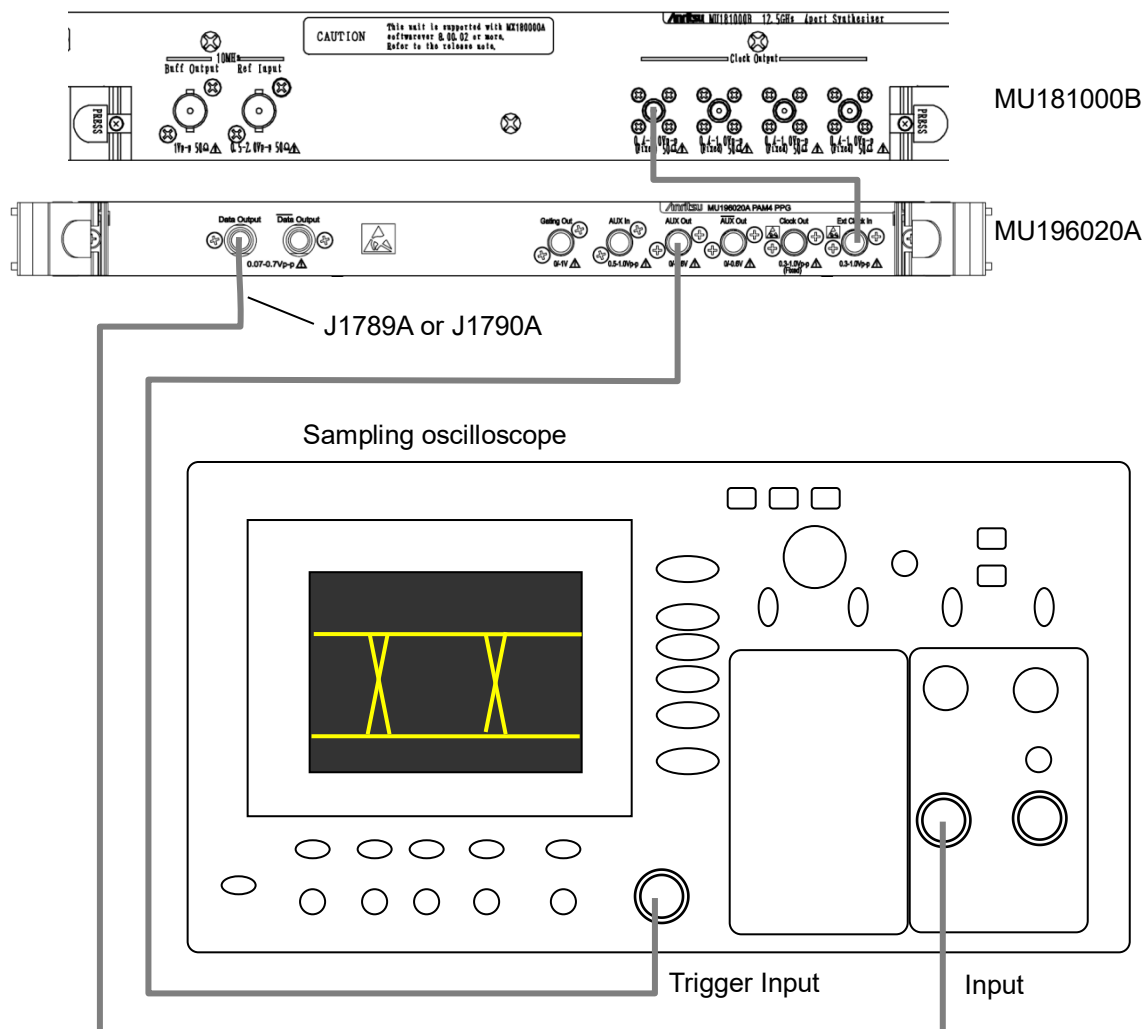

Figure 5.3.2-1 Connection Diagram for Waveform Test
8. Connect the measuring instrument cables as shown in Figure 5.3.2-1. Be sure to connect the V210 terminators (standard accessories) to the Output connectors to which cables are not connected.
10. Enable the MP1900A signal output (ON) and output signals.